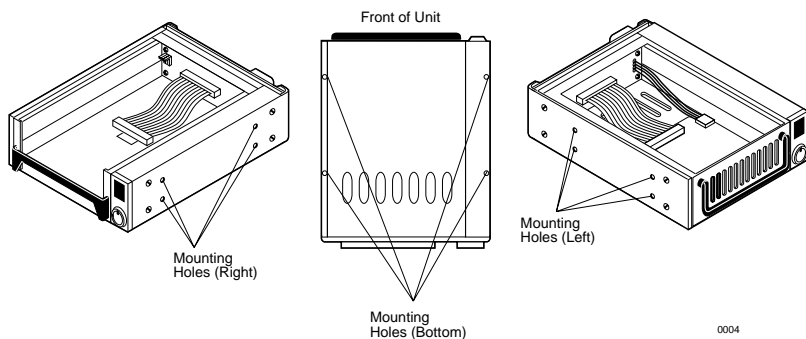

Figure 9: Receiving Frame Mounting Holes
4. With the drive carrier locked in place inside the receiving frame, install the DE100i-S into the 5.25" drive opening in the computer or expansion chassis. Use the appropriate guides to position the DE100i-S, and fasten it into place with the four (4) #6-32 Phillips Pan Hd. screws provided. Figure 9 illustrates the location of the mounting holes. Mounting holes are provided on each side and the bottom of the receiving frame to accommodate a variety of mounting configurations. Use the mounting holes which best suit the computer or expansion chassis configuration.